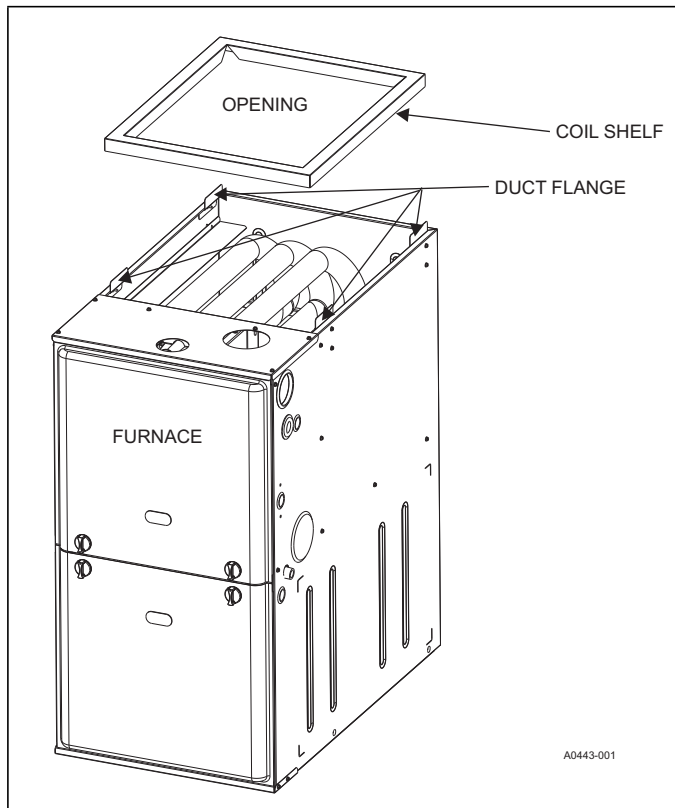

FIGURE 13: Coil Shelf Installation Position
7. Install coil shelf through plenum opening so that duct flanges on furnace support the coil shelf (refer to Figure 13). Install the coil shelf level or pitched slightly toward the drain end (high in the back, low in the front). Pitch should not exceed 1/4" per length of coil. Install the appropriate metering device (piston or TXV).